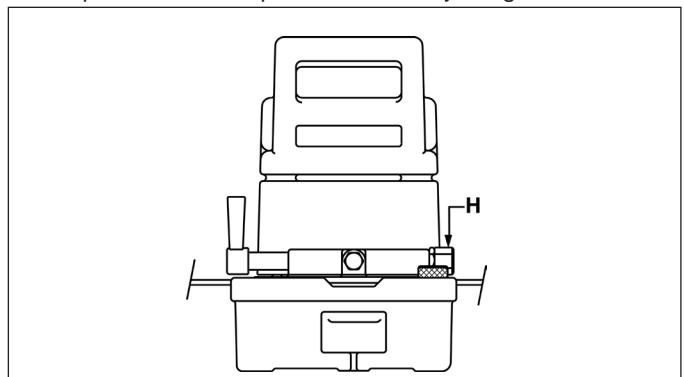

Figure 10
6.0 RELIEF VALVE ADJUSTMENT (Figure 10)